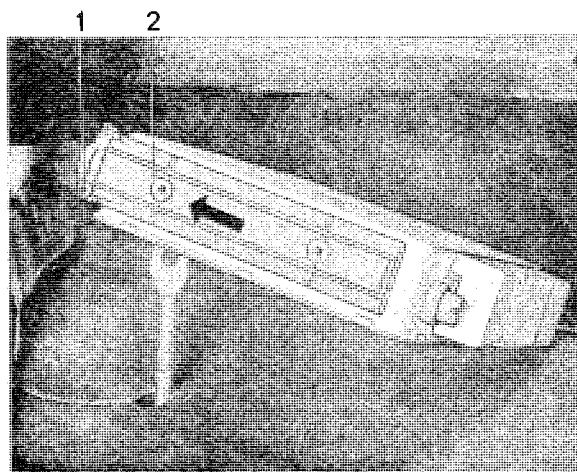

Fig. 2-89. Removing plastic cover
4. Unscrew the screw for the cap holding the cable loom to the control unit, see Fig. 2-89.